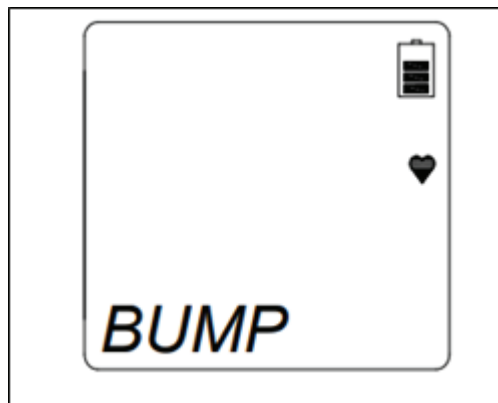

Figure 14
4.2.2.6 The first screen to appear will be BUMP, as shown in Figure 14.